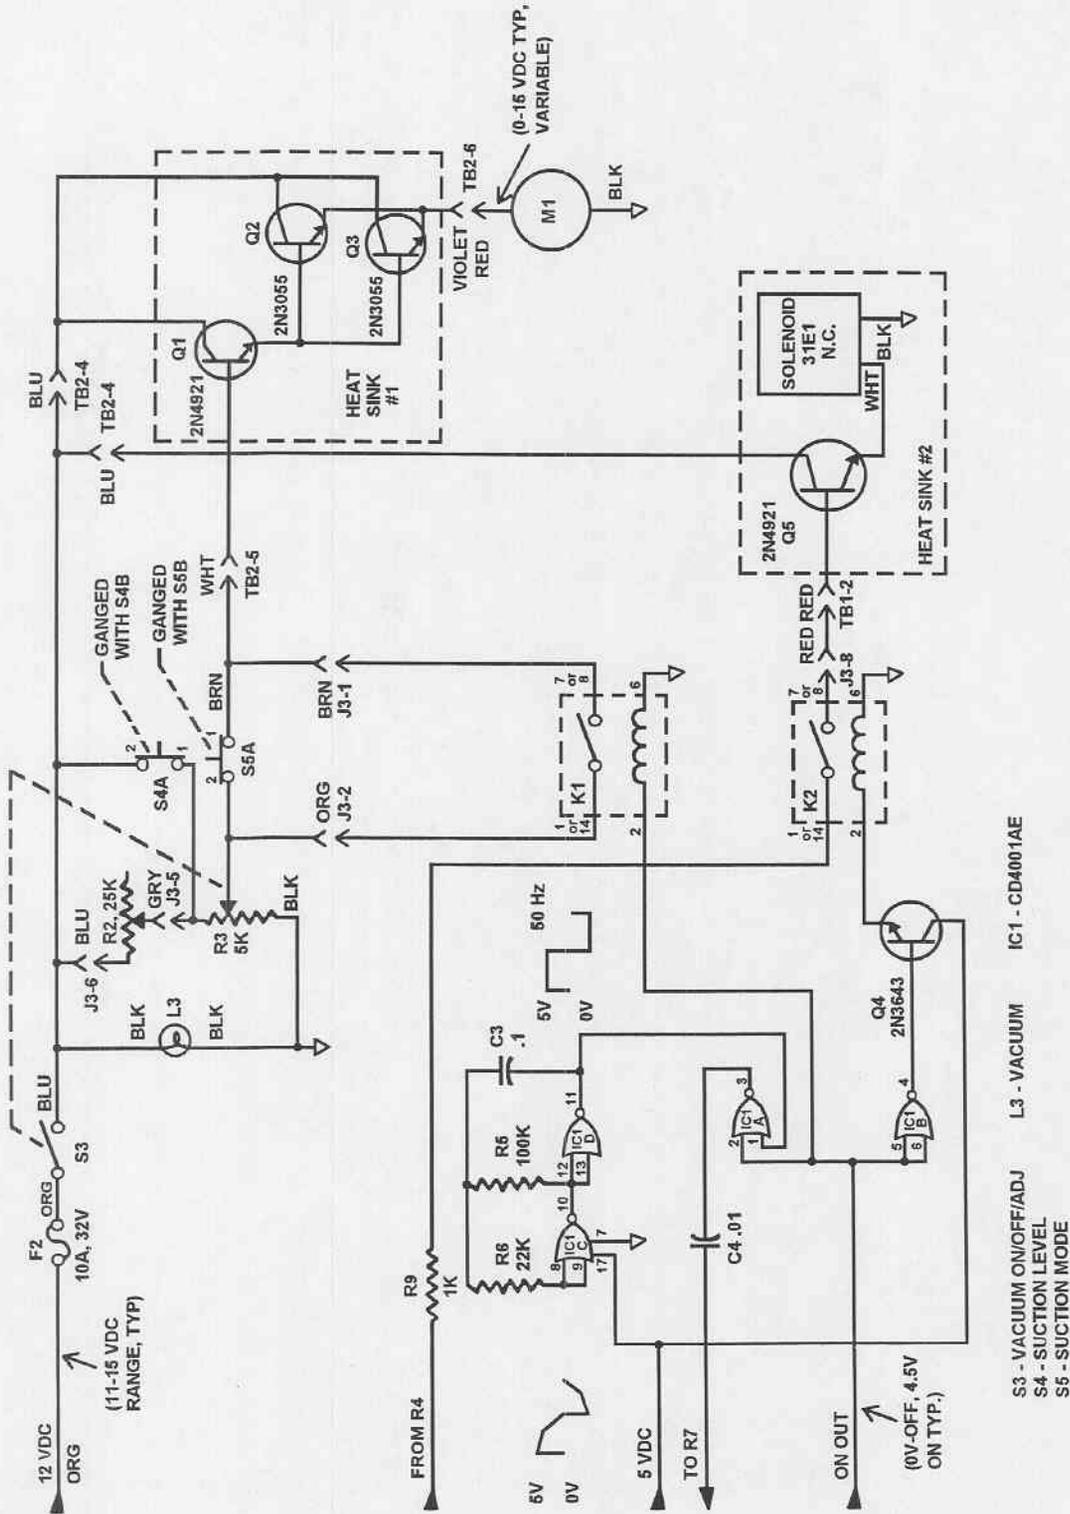
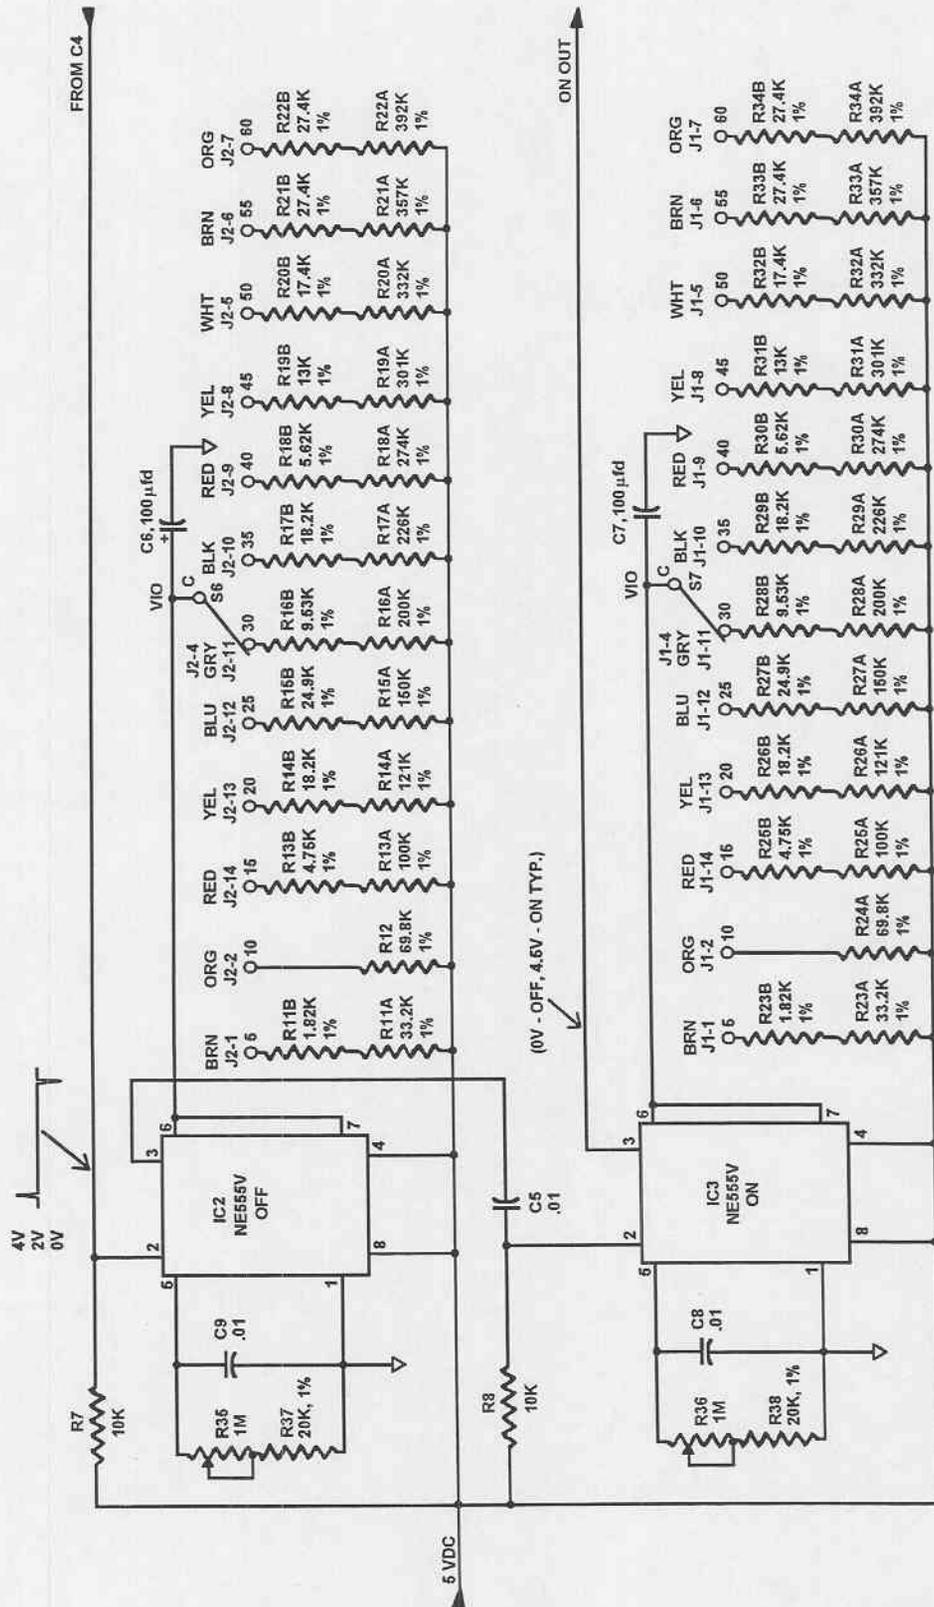

Figure 3-3. Suction level and motor speed control circuits.
Figure 3-4. On/off one - shots schematic.
### 3-19. Suction level and motor speed control circuits (fig 3-3).
(1) Components R4, IC4 and C2 provide a regulated low voltage power supply for the intermittent timing and switching circuitry. Resistor R4 acts as a current limiter to the regulator input while C2 provides output voltage filtering of transient power surges.
(2) The regulator output is typically 4.8V at maximum low vacuum levels (motor off), approximately 3V during motor turn-on (initial surge), and rises to about 4.5V for the duration of the motor on cycle. All components are mounted to the PCB.
d. *Clock oscillator (fig 3-4).* The clock oscillator is a 50 Hz, self-starting, square wave generator consisting of IC1 pins 8-13, R5, R6 and C3. Its purpose is to provide an initiating input to the **OFF TIME** monostable. IC1 is a quad-2 input NOR, dual-line package. All components are mounted to the PCB.
e. *Type 555 timer operation (fig 3-4).*
(1) These integrated circuits are used as functional monostable for the **OFF TIME** and **ON TIME** circuits.
(2) When a negative impulse brings the trigger input (pin 2) below  $1/3 V_{cc}$ , the output (pin 3) goes to a high logic level ( $V_{cc}$ ). Simultaneously, the voltage across the timing capacitor rises exponentially through the timing resistor, and after a period of time, the comparator input (pins 6 and 7) reaches  $2/3 V_{cc}$ , resetting the internal flip-flop, causing the capacitor to discharge to ground and the output to return to a low logic level (ground).
(3) The timer, in this application is sometimes 20% triggered when intermittent operation is initiated, thus, the unit may cycle once before stabilizing to its correct time period. The following two sections describe each timing circuit.
f. *OFF TIME monostable (fig 3-3, 3-4).*
(1) The purpose of this circuit is to control the time period that the **ON TIME** monostable output remains low (pin 3).
(2) The **OFF TIME** monostable consists of IC1 pins 1-3, IC2, C4, C6, C9, R7, R11-22, R35 and R37. IC1 pins 1-3 comprise a NOR gate of which pin 3 is its output. This output is an inversion of the clock oscillator when the **ON TIME** monostable is low.
(3) Pin 3 is held low when the **ON TIME** monostable is high.
(4) R7 and C4 shape the NOR gate output into positive and negative impulses, biased at  $V_{cc}$  to prevent mistripping of the monostable and are applied to IC2 pin 2.
(5) C6 and R11-22 determine the time periods for which the **OFF TIME** monostable is high.
(6) C9, R35 and R37 are used to adjust the delay multiplier in the time period equation:  $T = (.975 + \text{or} - .125) RC$ .
(7) All components are mounted to the PCB.
g. *ON TIME monostable (fig 3-3, 3-4).*
(1) The **ON TIME** monostable controls the relay system and determines for how long the **OFF TIME** monostable remains low (pin 3).
(2) Components IC3, C5, C7, R8, R23-34, R36 and R38 compromise this circuit.
(3) Essentially, this monostable and its corresponding components act in the same manner as the **OFF TIME** monostable.
(4) The **ON TIME** output triggers the **OFF TIME** monostable via IC1 pin 3 and the relay system both direct and through IC1 pin 4.
(5) All components are PCB mounted.
h. *Relay system (fig 3-3).*
(1) The relay system provides two functions: first, it interfaces the **ON TIME** monostable with the motor speed control circuit, and as a secondary function, "dumps" the vacuum collections system to atmospheric pressure during off cycles. The relay system consists of K1, K2, Q4, Q5, R9, and the solenoid.
(2) During **ON TIME** cycles, relay K1 is closed and provides base bias to Q1 from the R2, R3 series combination. The motor speed is then fixed by the R2, R3 combination during each on cycle unless changed by the operator. Relay K2 is not energized during the on cycle, thus allowing the vacuum to exist.
(3) During off cycles, K1 is normally open and stops M1. Relay K2 is energized as IC1 pin 4 goes high and turns Q4 on. When K2 closes, Q5 turns on and energizes the solenoid to a normally open state. When the solenoid opens, the vacuum collection system is "dumped" to atmospheric pressure and remains so until the next on cycle.
(4) Switch S3 must be closed to operate the motor speed control circuit and solenoid.
(5) Components K1, K2, Q4 and R9 are mounted to the PCB; Q5 and the solenoid to heat sink #2.